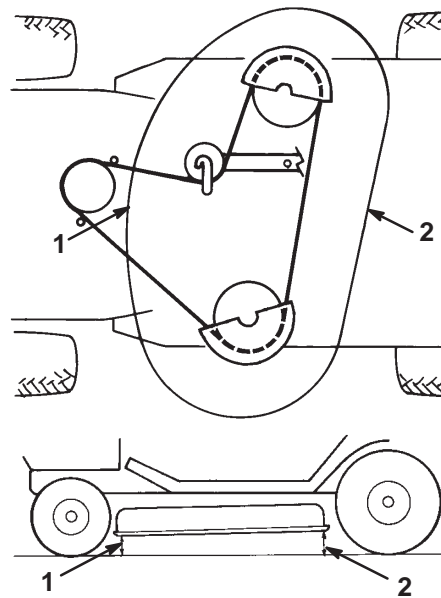

Figure 49
11. Check the front-to-rear slope by measuring between the bottom of the mower (front center and rear center) and the flat surface (Fig. 49). If the front is not within a range of 1/8 to 3/8 in. (4 to 11 mm) lower than the rear, an adjustment is required.
14. After adjusting both eye bolt locknuts evenly, check the front-to-rear slope again. Continue adjusting the eye bolts until the front blade tip is 0 to 3/8 in. (0-9 mm) lower than the rear blade tip (Fig. 49).